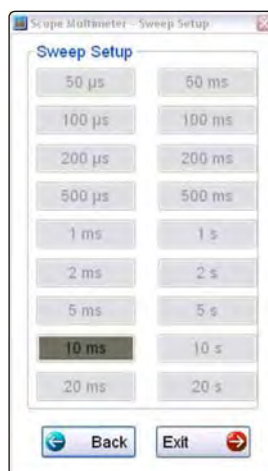

Figure 8-18 Sample Sweep Setup dialog box
2. Select the **Sweep** icon to open the sweep dialog box (Figure 8-18)